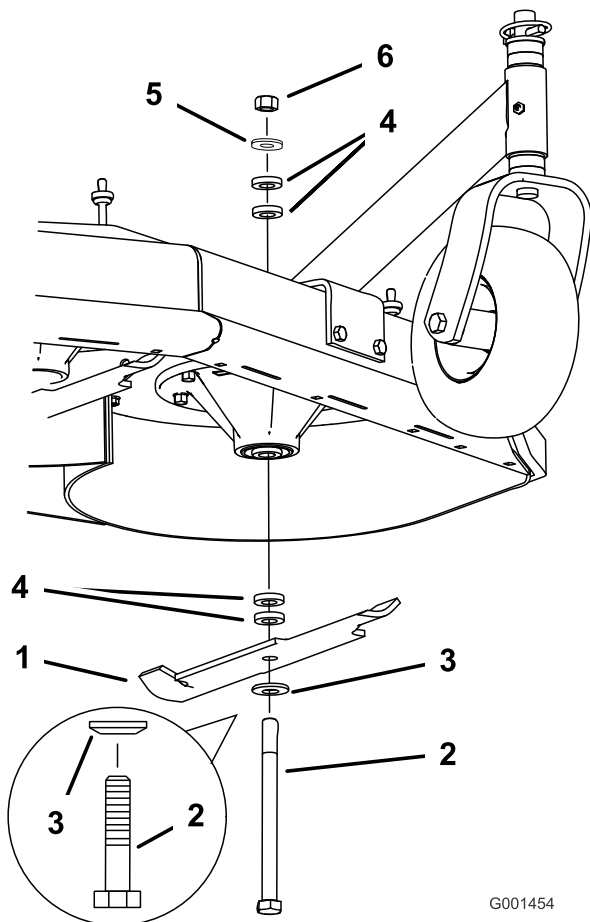

Figure 41
2. Remove the nut, blade bolt, curved washer, blade, spacers, and thin washer from the spindle (Figure 41).
1. Install the curved washer and then the blade onto the bolt. Select the proper number of spacer(s) for the height-of-cut, and slide the bolt into the spindle (Figure 41).
2. Install the remaining spacer(s) and secure them with a thin washer and a nut (Figure 41).